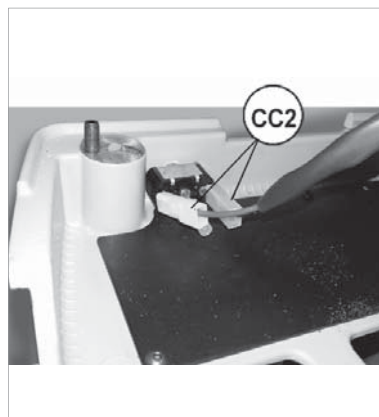

Fig. 48
- 2) Detach the 2 connectors (CC2) paying special attention to their position (Fig. 48).